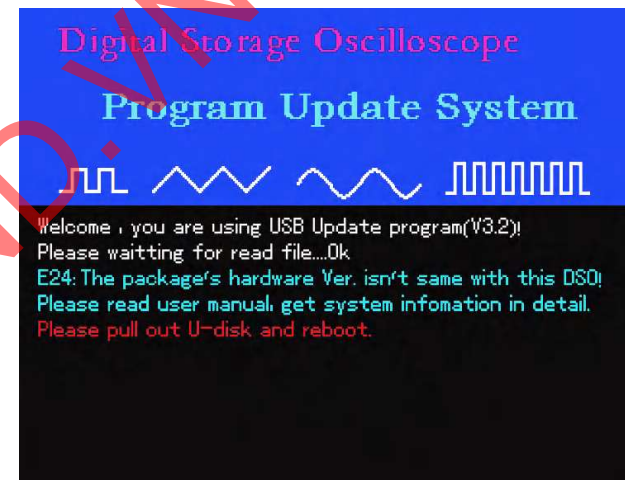

Figure 5-13
8.If the hardware version of the program upgrade pack is incompatible with the Oscilloscope, the prompt in Figure 5-13 will appear : “E24 : The package’s hardware Ver. isn’t same with this DSO! Please read user manual, get system information in detail. Please pull out U-disk and reboot.”